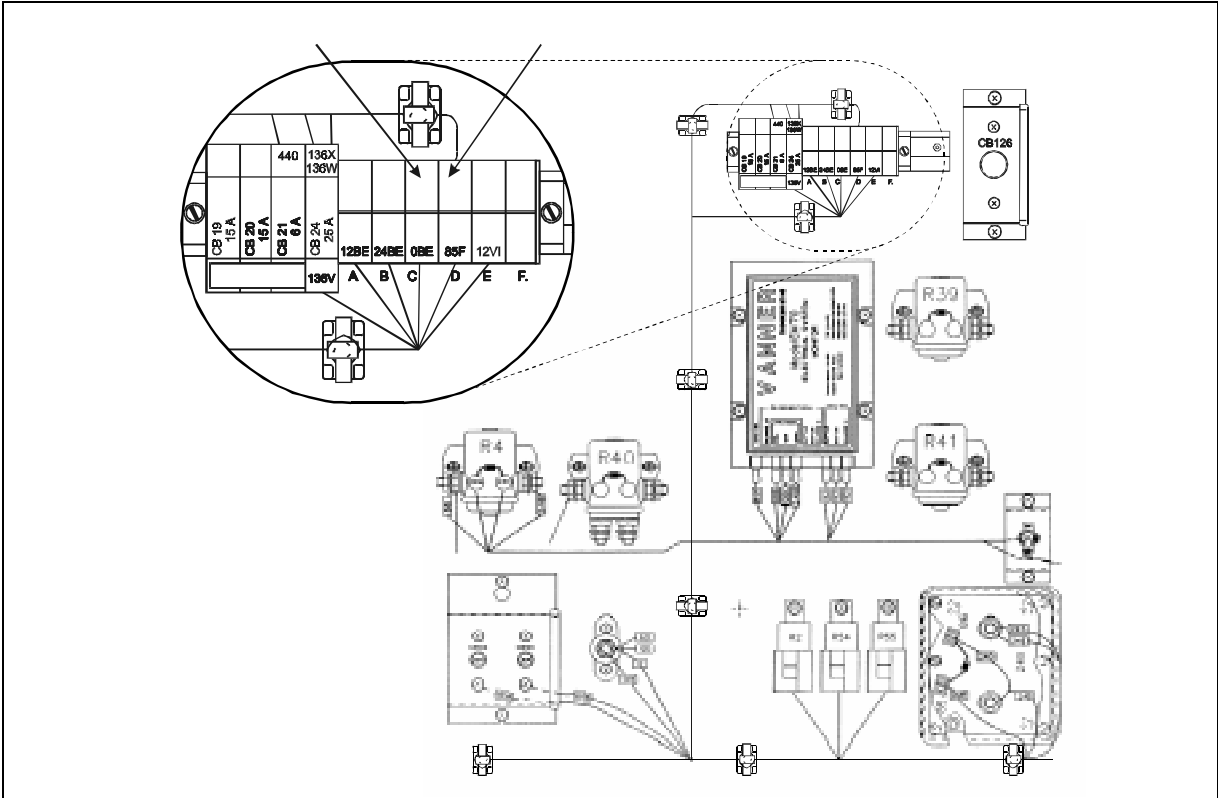

FIGURE 5: TERMINAL C AND D CONNECTION IN THE MAIN POWER COMPARTMENT
7. In the main power compartment, connect the black OH wire strand #064850 to terminal C and 125 red strand to terminal D (figure 5).